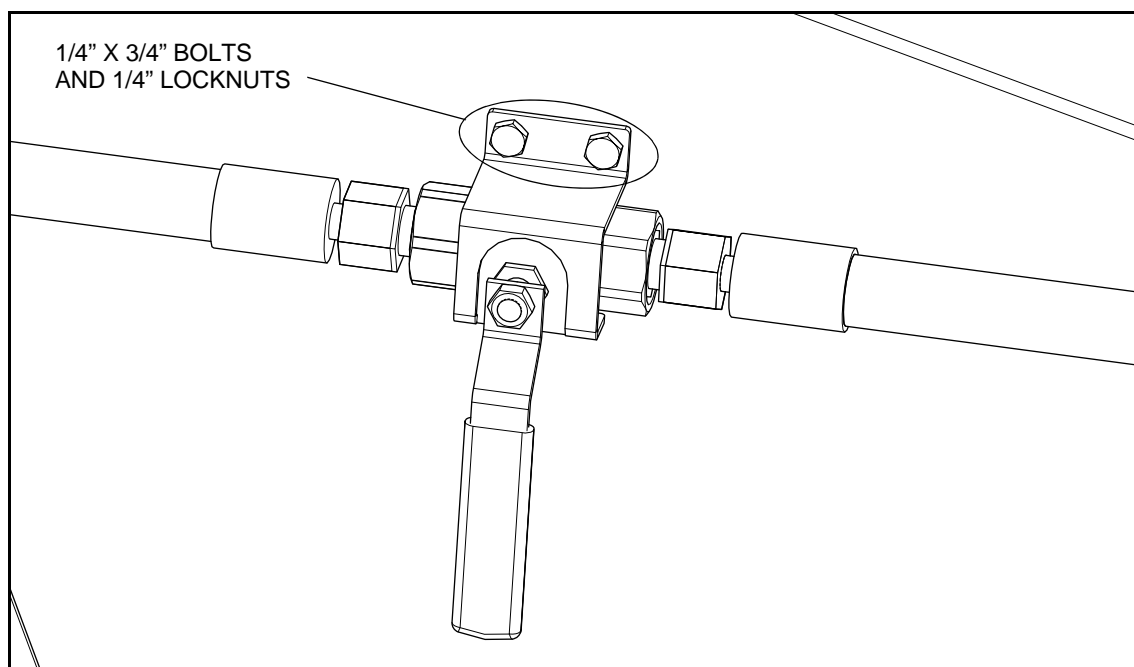

Figure 3.32 Installing the Ball Valve on the Boot
10. Connect ball valve to the boot using the ball valve bracket and two 1/4" x 3/4" bolts and locknuts (see Figure 3.32).